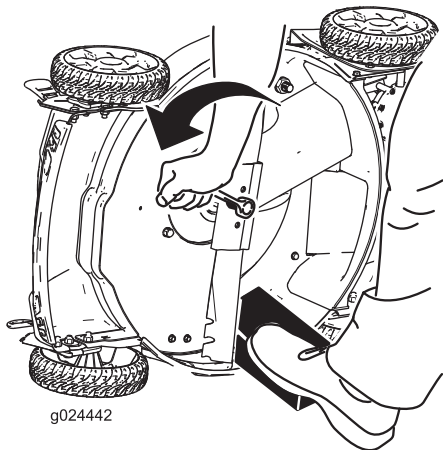

Figure 25
3. Use a block of wood to hold the blade steady (Figure 25).
4. Remove the blade by turning the blade bolt counterclockwise, saving all mounting hardware to install the new blade (Figure 25).